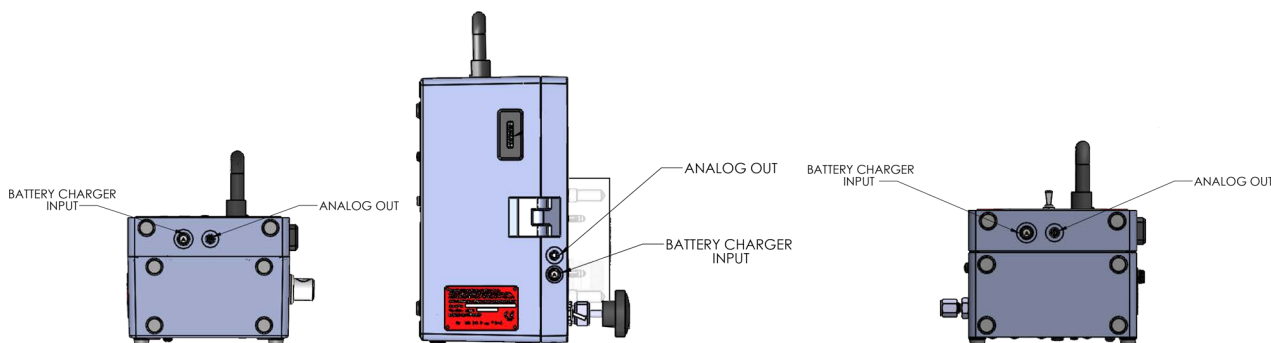

Figure 24. Battery charging input
3. Connect the jack to your analyzer's charging port, which is located at the bottom as shown in Figure 24